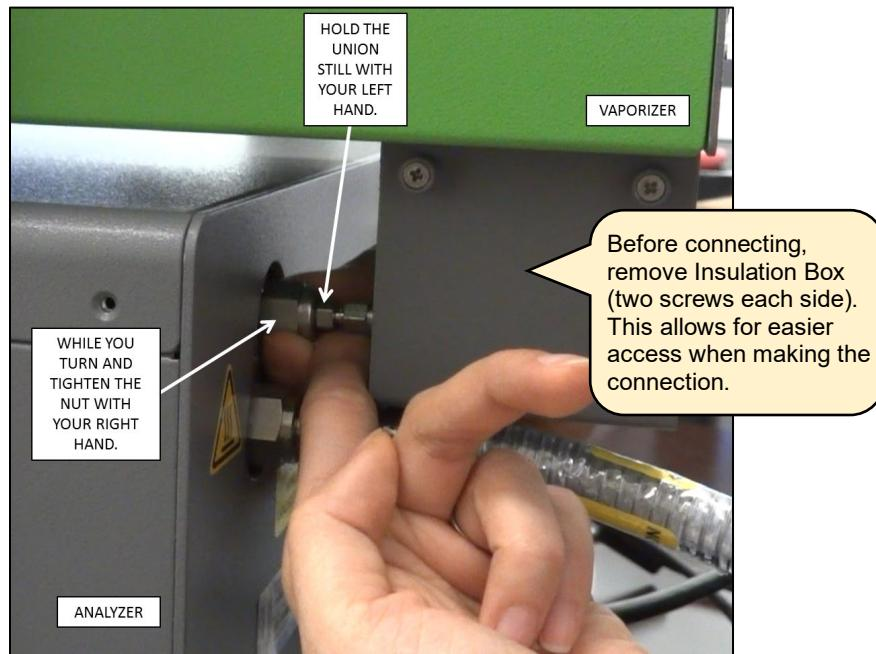

Figure 22: Vaporizer to Analyzer Sample Port Initial Connection
- b. Remove the Philips screws of the insulation box visible in Figure 22 (two on each side) and remove the box to allow for easier connection to the analyzer inlet.